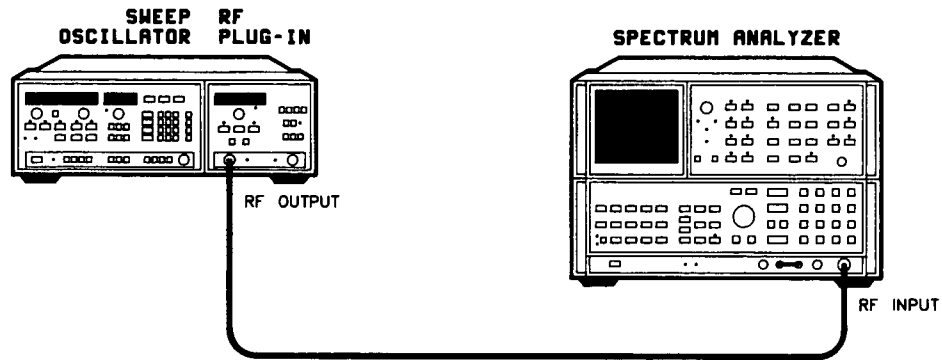

Figure 4-5. Residual FM Test Setup
1. Connect the equipment as shown in Figure 4-5. Press **[INSTR PRESET]** on both the sweep oscillator and the spectrum analyzer. Allow the equipment to warm up for one hour.